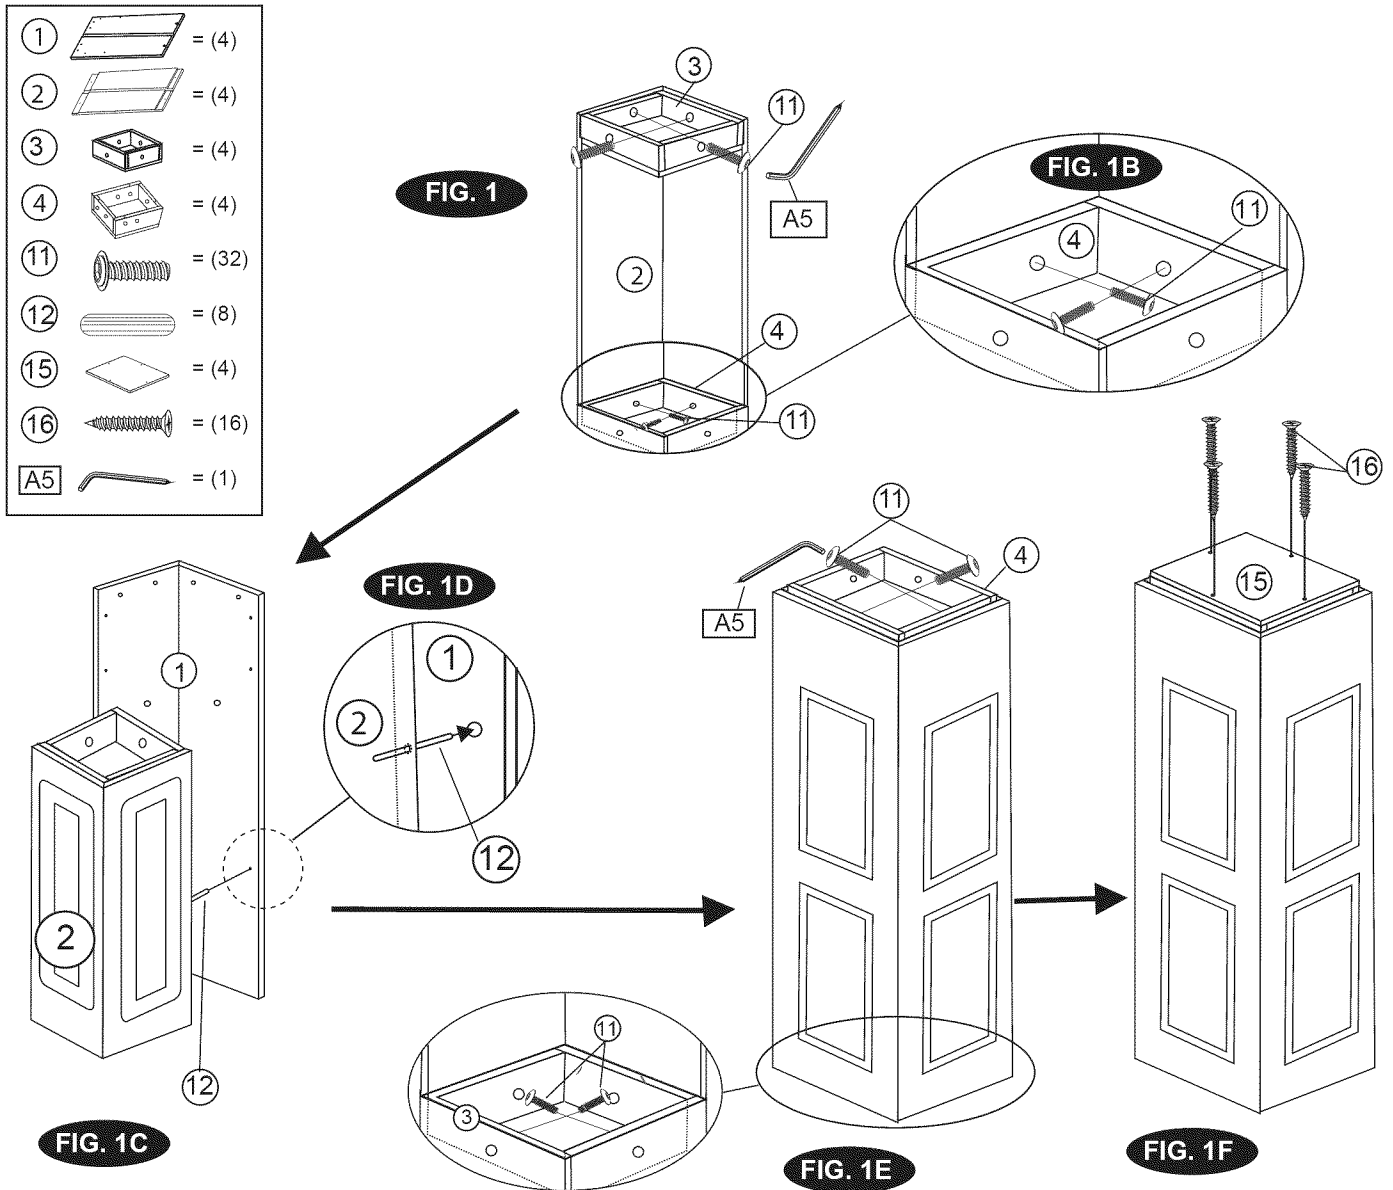

FIG. 2:
- Attach one Lower End Apron (#7) between the two leg assemblies using four Bolts (#9) and four Washers (#6). Repeat the same for the other Lower End Apron. See Figures 2 and 2A.
- Attach one Lower Side Apron (#8) between the leg assemblies using four Bolts (#9) and four Washers (#6). Repeat the same for the other Lower Side Apron. See Figures 2 and 2B.